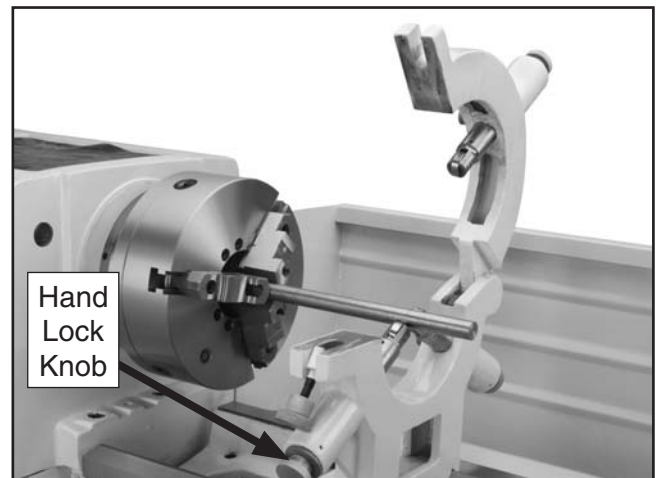

Figure 36. Hand lock knob.
3. Loosen the hand lock knob and open the steady rest so a workpiece can fit inside of the fingers (see **Figure 36**).